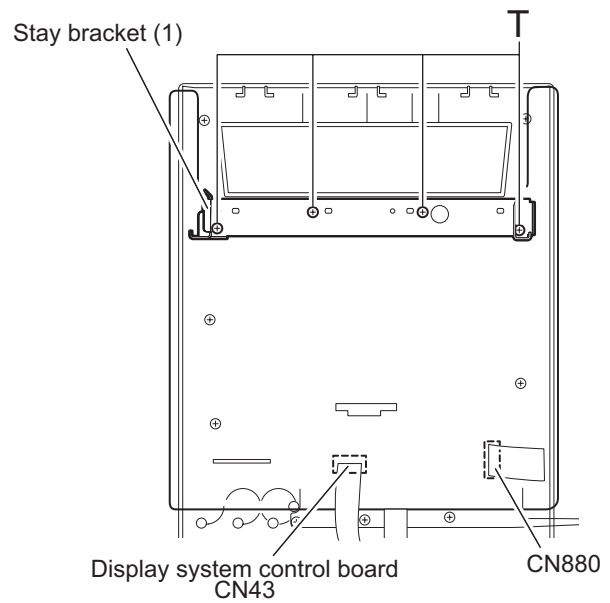

Fig.29
- (1) Remove the screw **S** and pull out the headphone board backward.
- (2) Cut off the band.
3.2.3 Removing the display system control board (See Fig.29, 30)